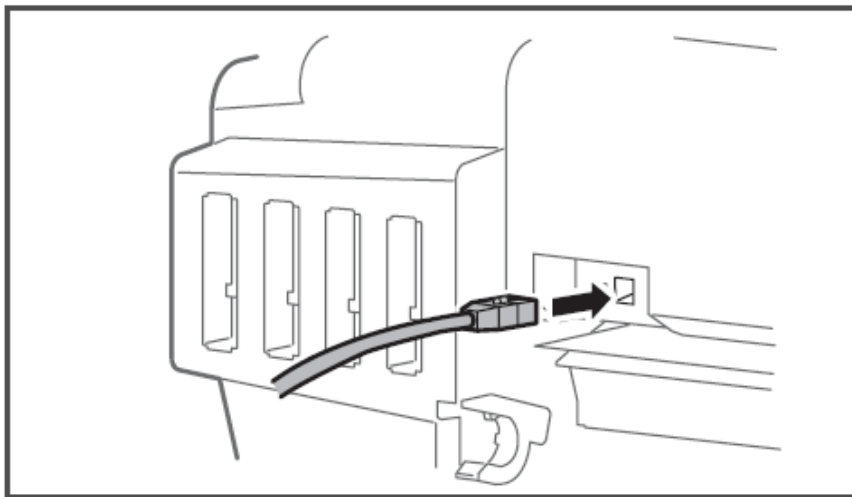

Figure 26
7. Connect the ethernet cable to the printer. See Figure 26.